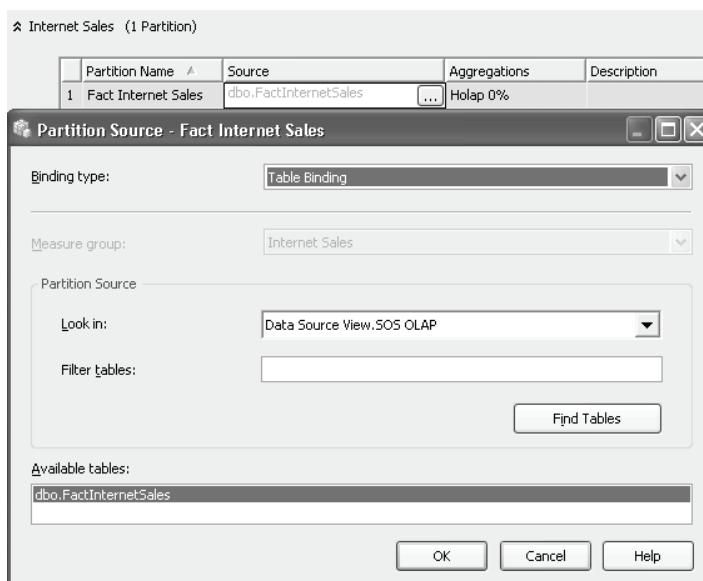

Figure 14.20 By default, a measure group has a single partition which is bound to entire fact table with Table Binding option.
4. Click inside the Source column and press the “...” button to open the Partition Source dialog (Figure 14.20). By default, a measure group has a single partition which is bound to the entire fact table (the partition Binding type is *Table Binding*).